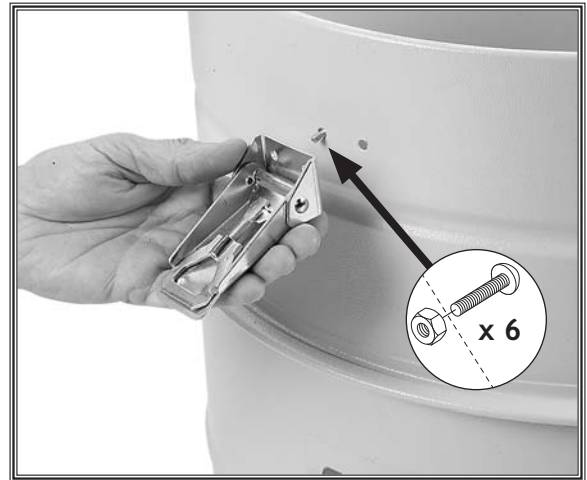

Figure 24. Installing the collection drum latch assemblies.
20. Install the three drum lid latch assemblies with (6) #10-24 x $\frac{3}{8}$ " Phillips head screws and (6) #10-24 hex nuts, as shown in Figure 24.